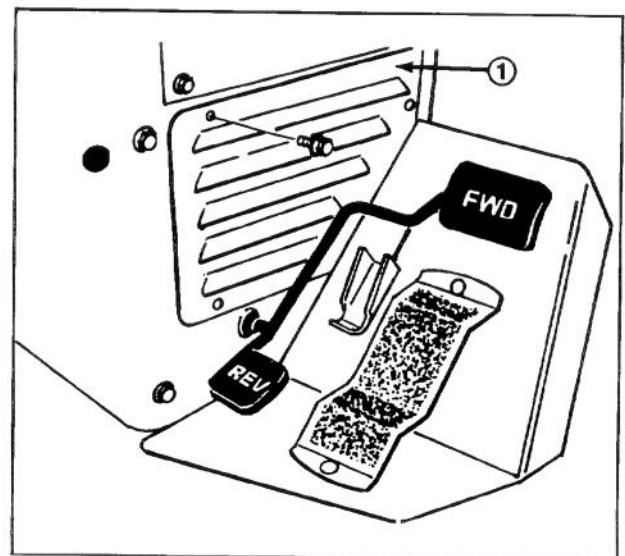

Figure 43
ADJUSTING TRACTION PEDAL (Fig. 43 & 44)
1. Remove (3) self tapping screws securing support screen to hydraulic support panel (Fig. 43). Remove screen.